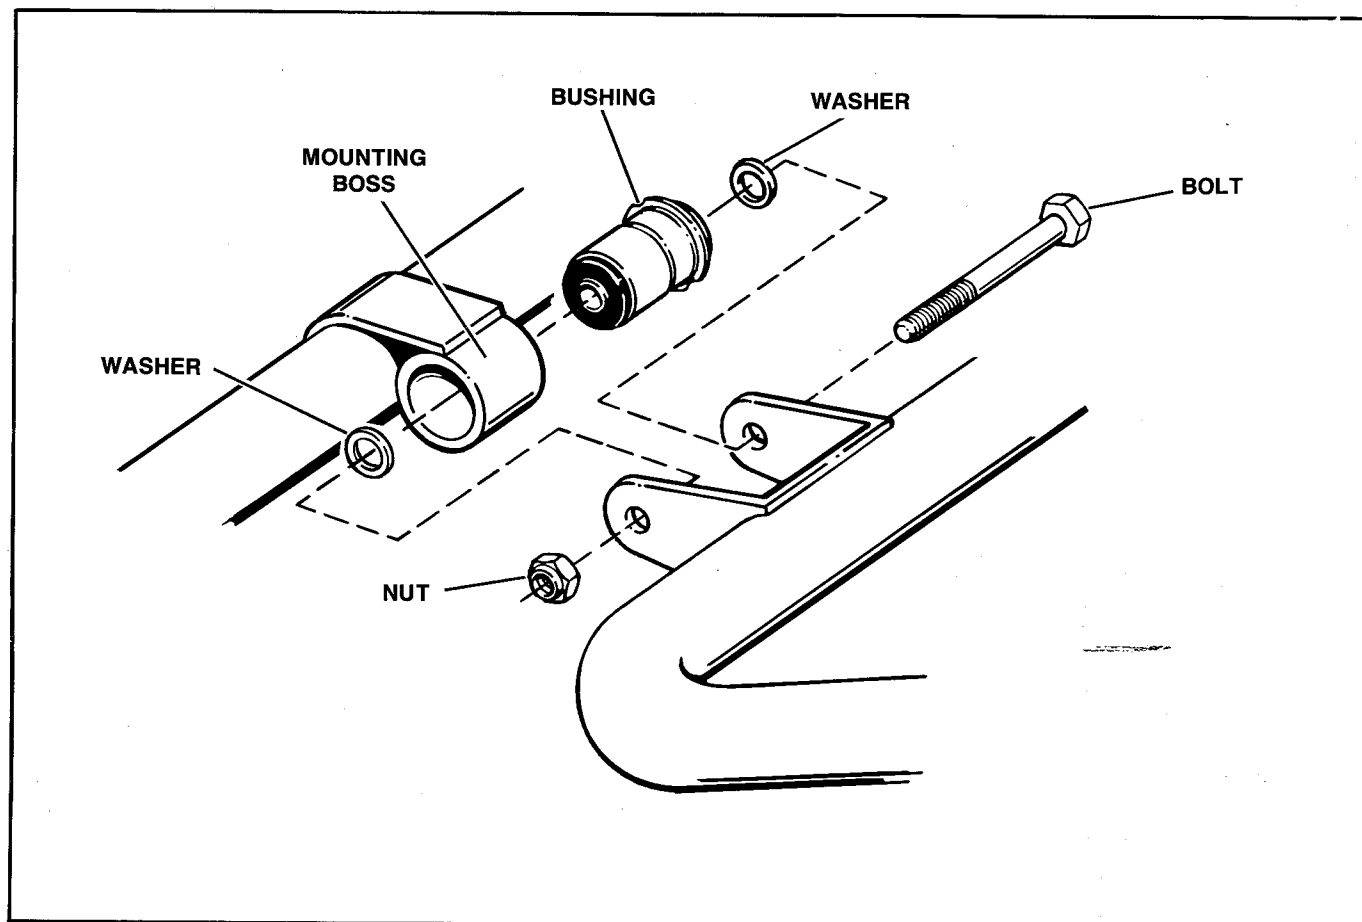

Figure 14 – Rear Fork Bushing
13. REAR FORK (Figure 14)
- c. Lower vehicle. Compress rear of vehicle to obtain a dimension of 3 inches between top of rear fork rubber bumper and main frame tube. While holding this 3 inch dimension, tighten swing arm bushing mounting bolts (4) to 50-60 ft.-lbs. (6.9-8.3 kgm) torque.
14. REPLACING REAR FORK BUSHING(S) (Figure 14)